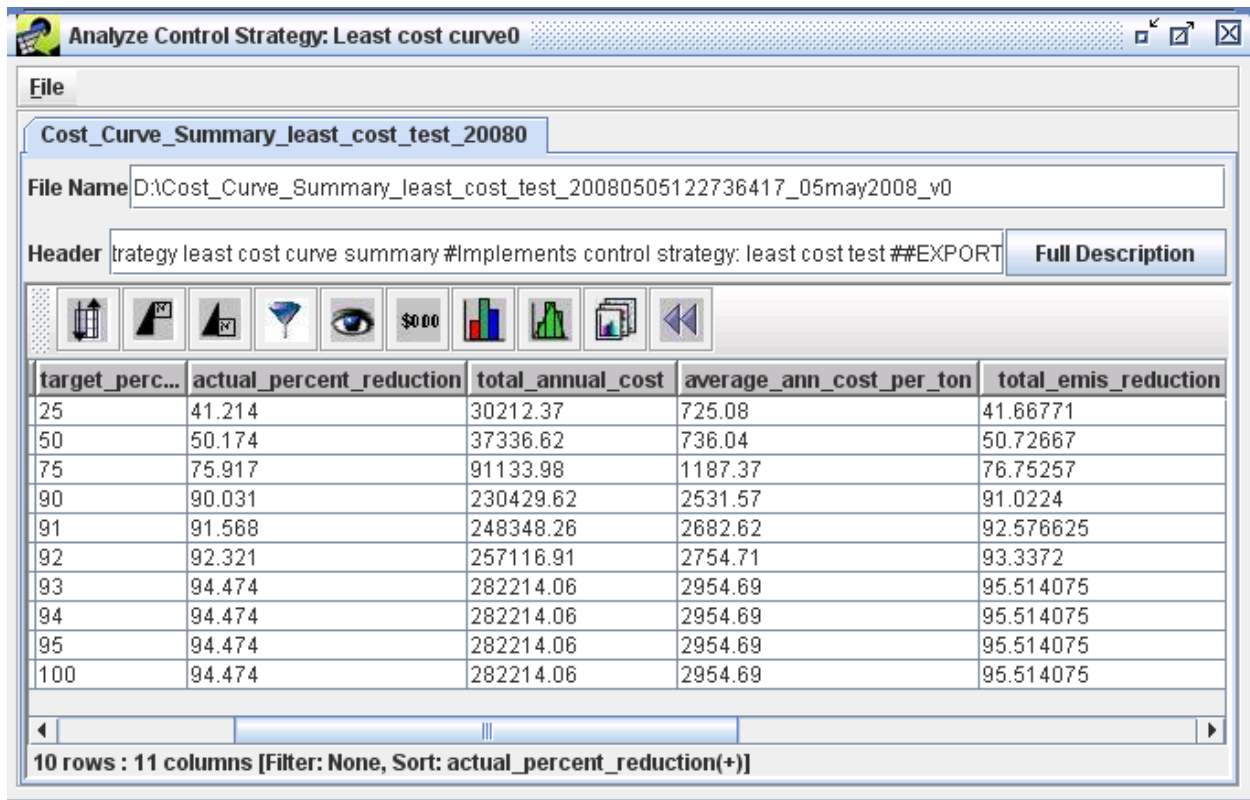

Figure 4.28: Analyzing a Least Cost Curve Output
**Step 5-12: Analyze Control Strategy Outputs in CoST.** Use the checkboxes to select one or more results files to analyze from the **Output Datasets** table and click **Analyze** to show the **Analyze Control Strategy** window for the selected outputs. An example of a Strategy County Summary analysis is shown in Figure 4.27. The results in this window can be sorted, filtered, plotted, and summarized with statistics. An example of a Least Cost Curve Summary is shown in Figure 4.28. Exit from the **Analyze Control Strategy** window using the X at the top of the window.